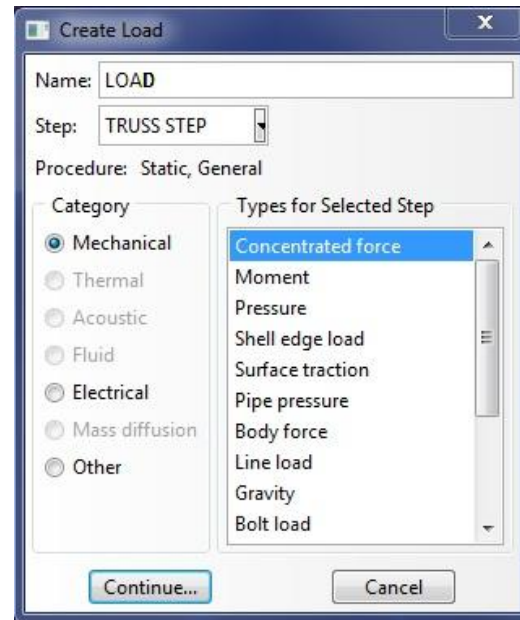

Figure 22b. Create Load Dialog Box (LOAD)
- Create a name for the load called **LOAD** and ensure that **TRUSS STEP** is selected for the **Step**. Choose **Mechanical** under the **Category** option and **Concentrated force** under the **Types for Selected Step** for **Selected Step** option. The **Create Load** dialog box should look identical to that in Figure 22b.